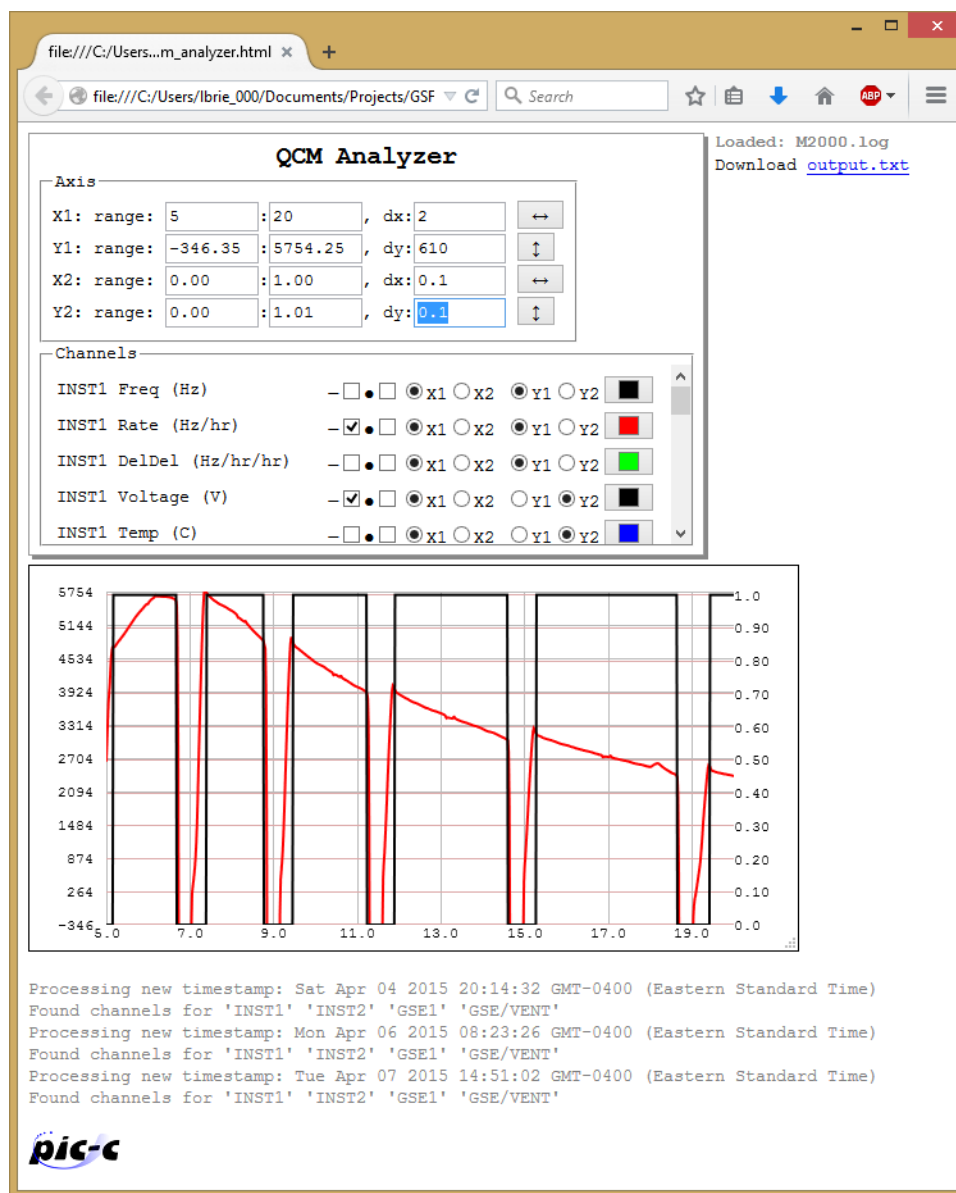

Figure 18. Automatic determination of times when QCM collection was active
The temperature rate is used to "binarize" the data, by marking time ranges when QCM was sampling (1) and when it was being baked off (0). This is shown in Figure 18.